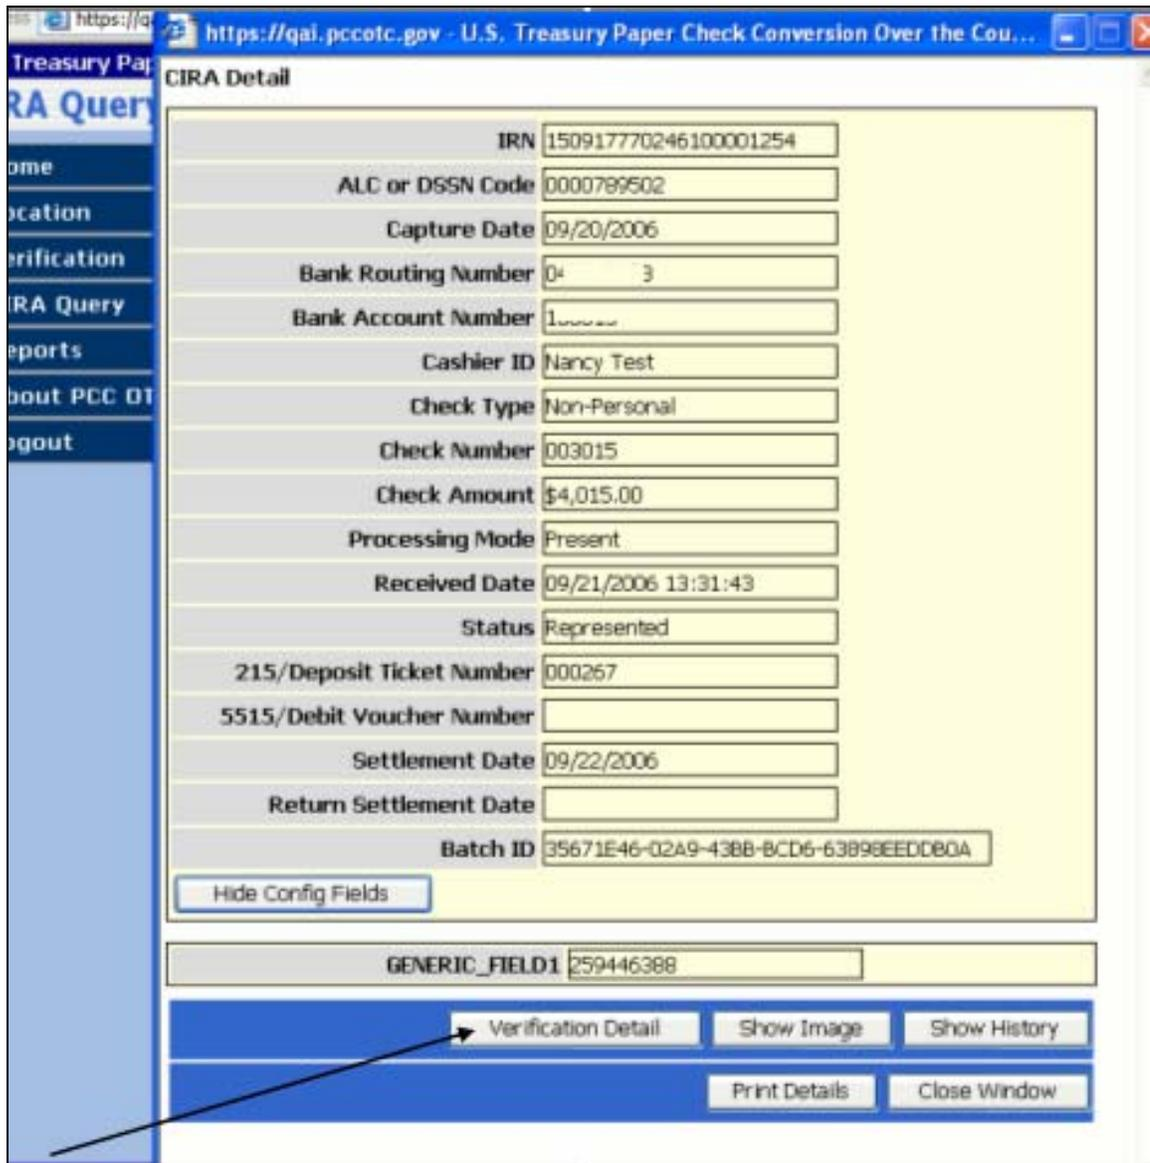

Figure 5.31.01
16. If the displayed CIRA detail has an associated verification record, a **Verification Detail** button will appear on the bottom of the screen as in Figure 5.31.01. The user must have permission to view a verification record.